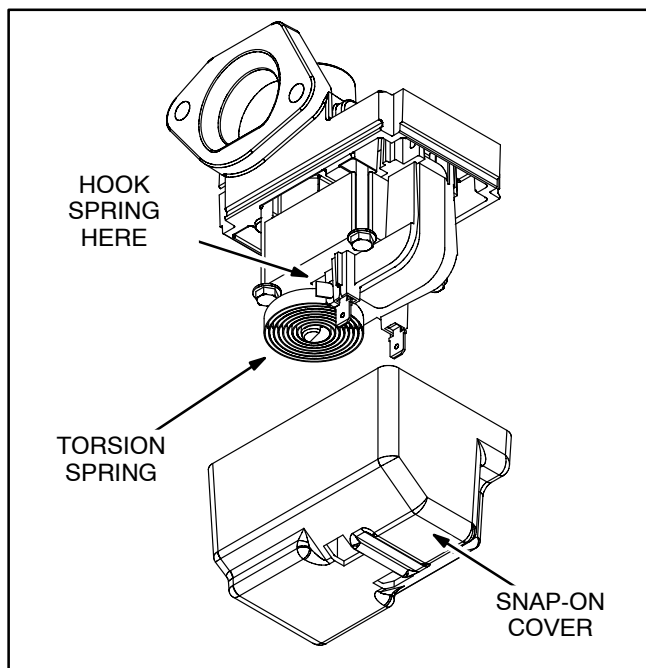

FIGURE 8-4. THROTTLE BODY / GOVERNOR ACTUATOR
The throttle body and governor actuator are one assembly (Figures 8-4 and 8-5). The throttle plate is mounted on the same ball bearing-mounted shaft as the actuator rotor. The actuator stator is energized by a pulse width modulated signal from the genset controller, which monitors frequency and recalculates the pulse width—and therefore throttle position—necessary to maintain rated frequency as load varies. The torsion spring opposes the rotor.
**Replacing Stator:** To remove the stator assembly from the throttle body, remove the snap-on cover, torsion spring and the four mounting screws. When reassembling, make sure that the mating bosses are properly aligned before tightening the four stator screws. Torque the four stator screws to 18 lb-in (2 N-m). Then press the torsion spring onto the flat on the end of the throttle shaft and catch the spring hook in the slot in the coil bobbin (Figure 8-4).